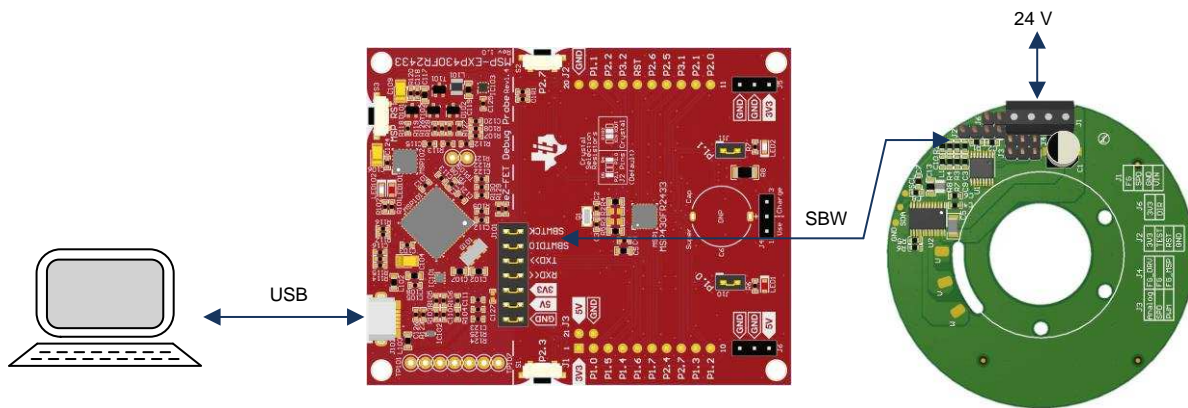

图 8. LaunchPad™ and TIDA-01585 Board Connections Diagram
This reference design board can work as a stand-alone board after flashing the MCU firmware and downloading it to the MSP430 MCU. To develop and debug the firmware using TI's CCS Integrated Development Environment \(IDE\), a TI LaunchPad kit is required for programming and debugging the reference board. 图 8 shows the hardware interconnections required between the design board and the LaunchPad for flashing the code in this reference design. Make sure that the jumper has been removed before connecting the LaunchPad and TIDA-01585 board.
2. Connect the LaunchPad programmer to the TIDA-01585 board, as the previous 图 8 shows.